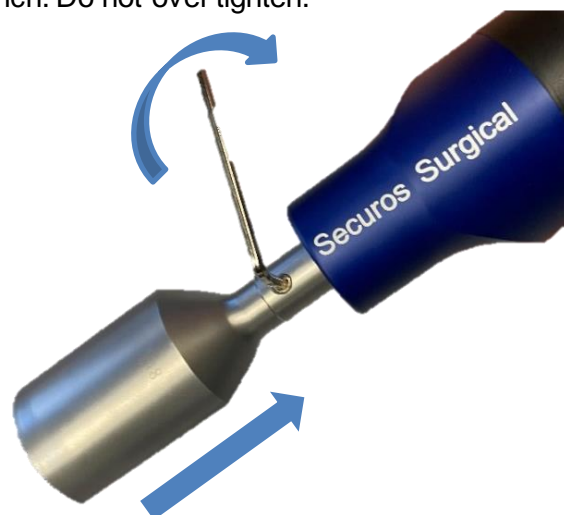

fig. 1:
2. Apply hex wrench to hex screw on the connector shaft. (see fig.1).